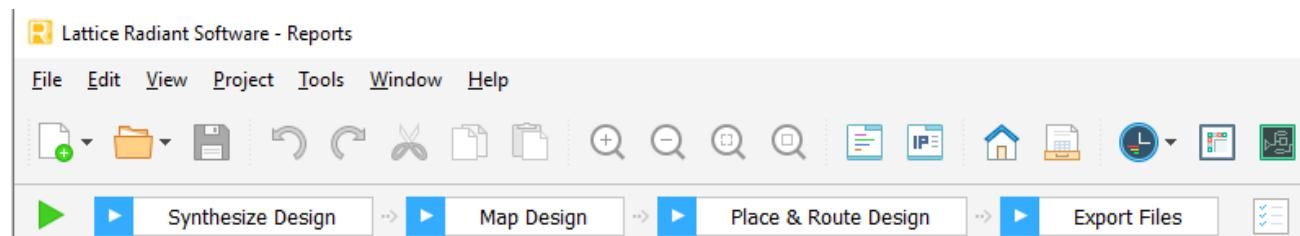

Figure 10.2. Radiant Software – Process Toolbar Initial State
4. In the **Process Toolbar**, click **Run All** , as shown in Figure 10.2.